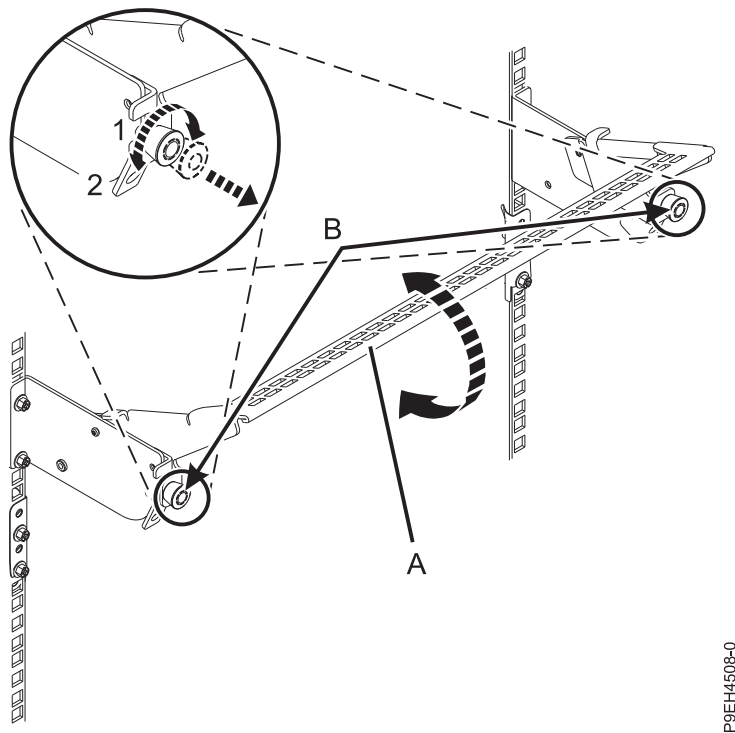

Figure 13. Placing the cable management bracket in the operating position
- a. Pull the quarter-turn fasteners (B) out and turn them to disengage them while moving the cable management bracket (A) to its lower position (2). See Figure 13 on page 15.
- b. Turn the quarter-turn fasteners (B) to engage and lock the bracket into position.